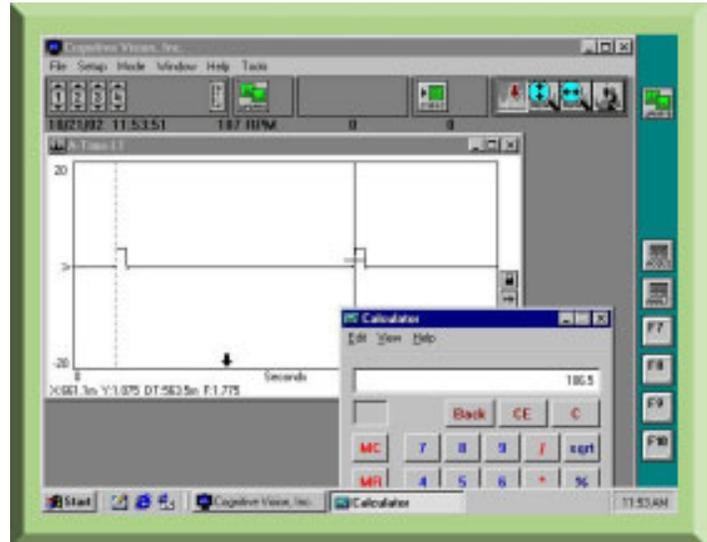

Figure 1. 5% Error?
It all comes down to a question of timing, which is dependent upon the size of the shaft. As an example, let’s look at a three-inch diameter shaft turning at 100 RPM. The time between pulses is about one-half a second using a once per revolution tachometer signal. Shown in Figure 1 is a time trace of the tachometer output. On the left-hand side about two-thirds down the figure is the cursor line readout. The Delta Time (DT) value of the readout shows the time between pulses is 0.5635 seconds. If we calculate the RPM using the frequency value shown on the cursor line (1.775 times 60), the result is 106.5 RPM. However,